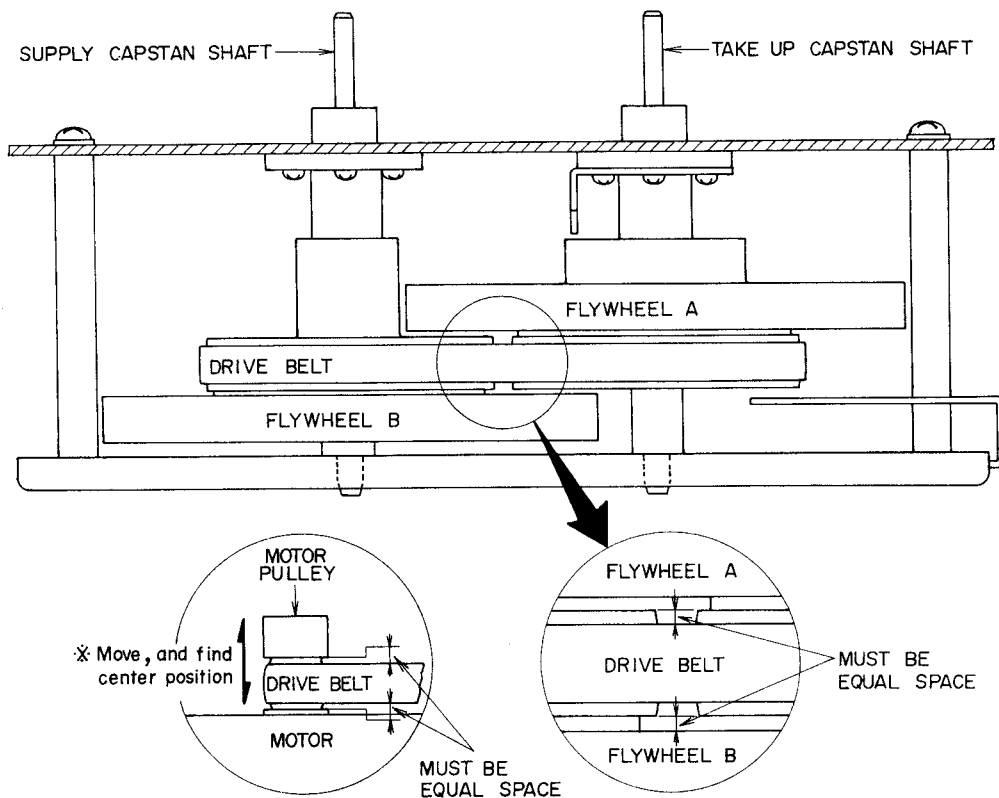

Fig. 3
- 1) As shown in Fig. 3, the drive belt must run on the center of Flywheels A and B, and on the center of the motor pulley.